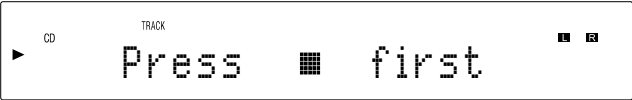

Figure 27
*the MCD600 can be activated, the disc must be stopped or the message "Press ■ (stop) first" will momentarily appear on the Front Panel Display. Refer to figure 27.*